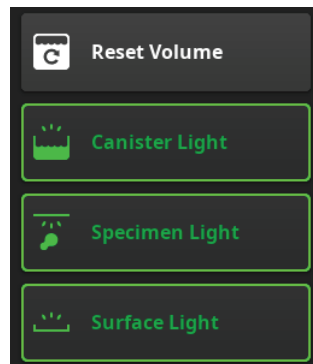

Figure 28 – Turn on Lights
- To illuminate the specimen collection tray where the specimen will be collected, touch the SPECIMEN LIGHT button on the main control panel display.(Figure 28).